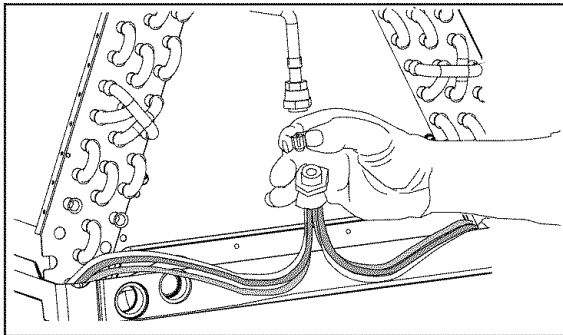

Figure 7. Orifice Insertion in Distributor Body
6. Insert the new orifice in the distributor body as shown in Figure 7.